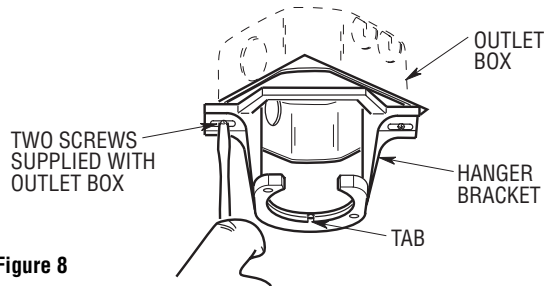

Figure 8
- 1. Securely attach the hanger bracket to the outlet box using the two screws supplied with the outlet box (Figure 8).